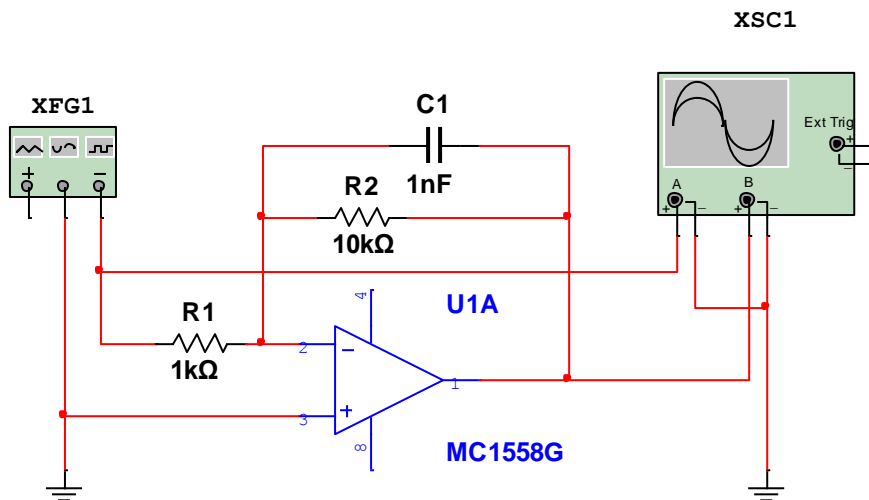

Fig. 1.9. Simulation circuit for integrator
1.6. Create the integrator simulation circuit as shown in Fig.1.9.